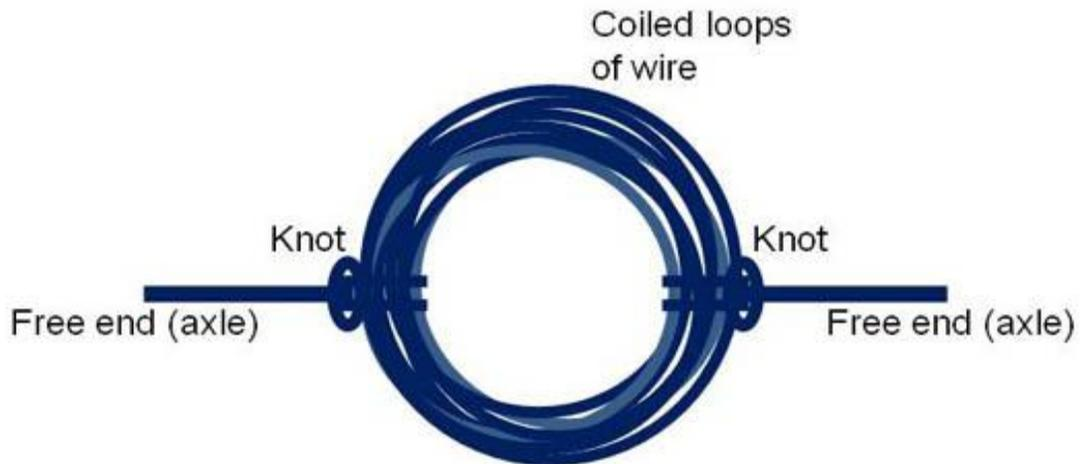

Figure 3. This drawing shows how the electromagnet and the axle that it spins on will look when it is formed.
4. Now you need to wrap the loops so that they stay bunched together and form a tight coil. Wrap each free end of magnet wire around the loops of coil two times in the 3 o'clock and 9 o'clock positions, as shown in Figure 3. If desired, you can then knot the magnet wire to help the coils stay tightly bunched. The free ends of the magnet wire should form a straight line through the coil. The free ends will be the axle upon which your electromagnet (the loops of magnet wire) spins.